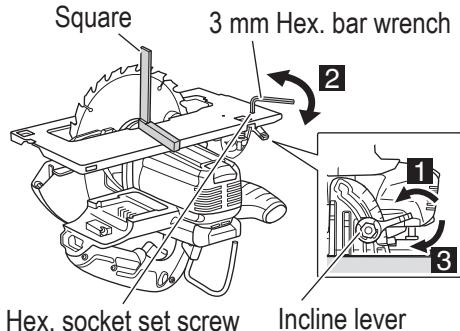

Fig. 43
6. Adjusting the base and saw blade to maintain perpendicularity (**Fig. 43**)
(1) Turn the base face up (**Fig. 43**) and loosen the incline lever.
(2) Apply a square to the base and the saw blade and, turning the Hex. socket screw with a 3 mm Hex. bar wrench, shift the position of the base to produce the desired right angle.